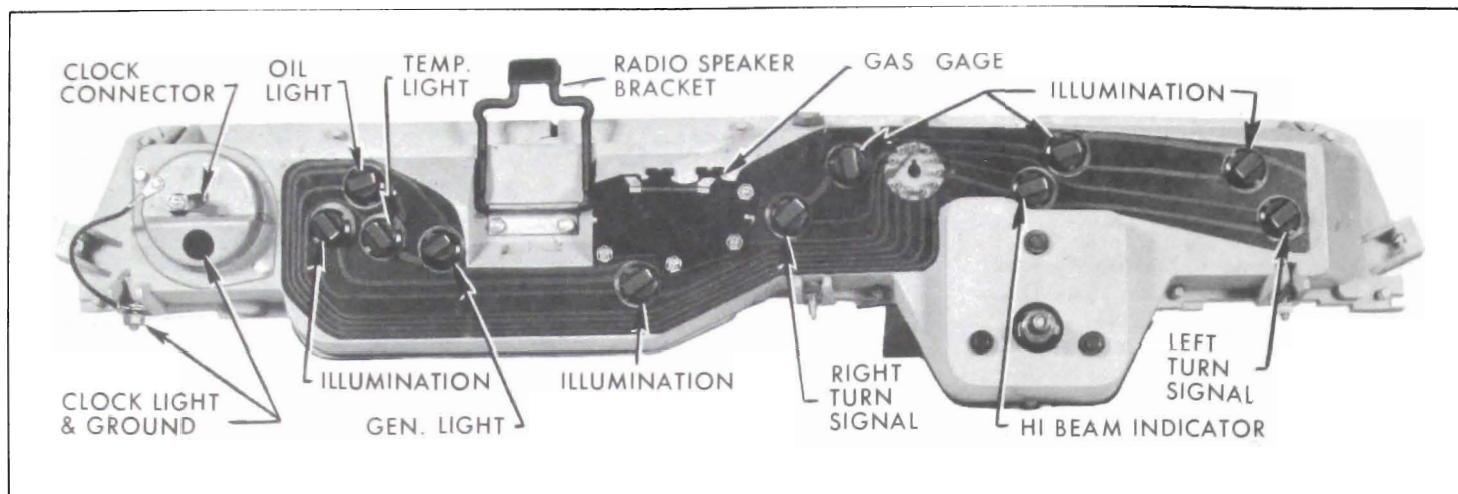
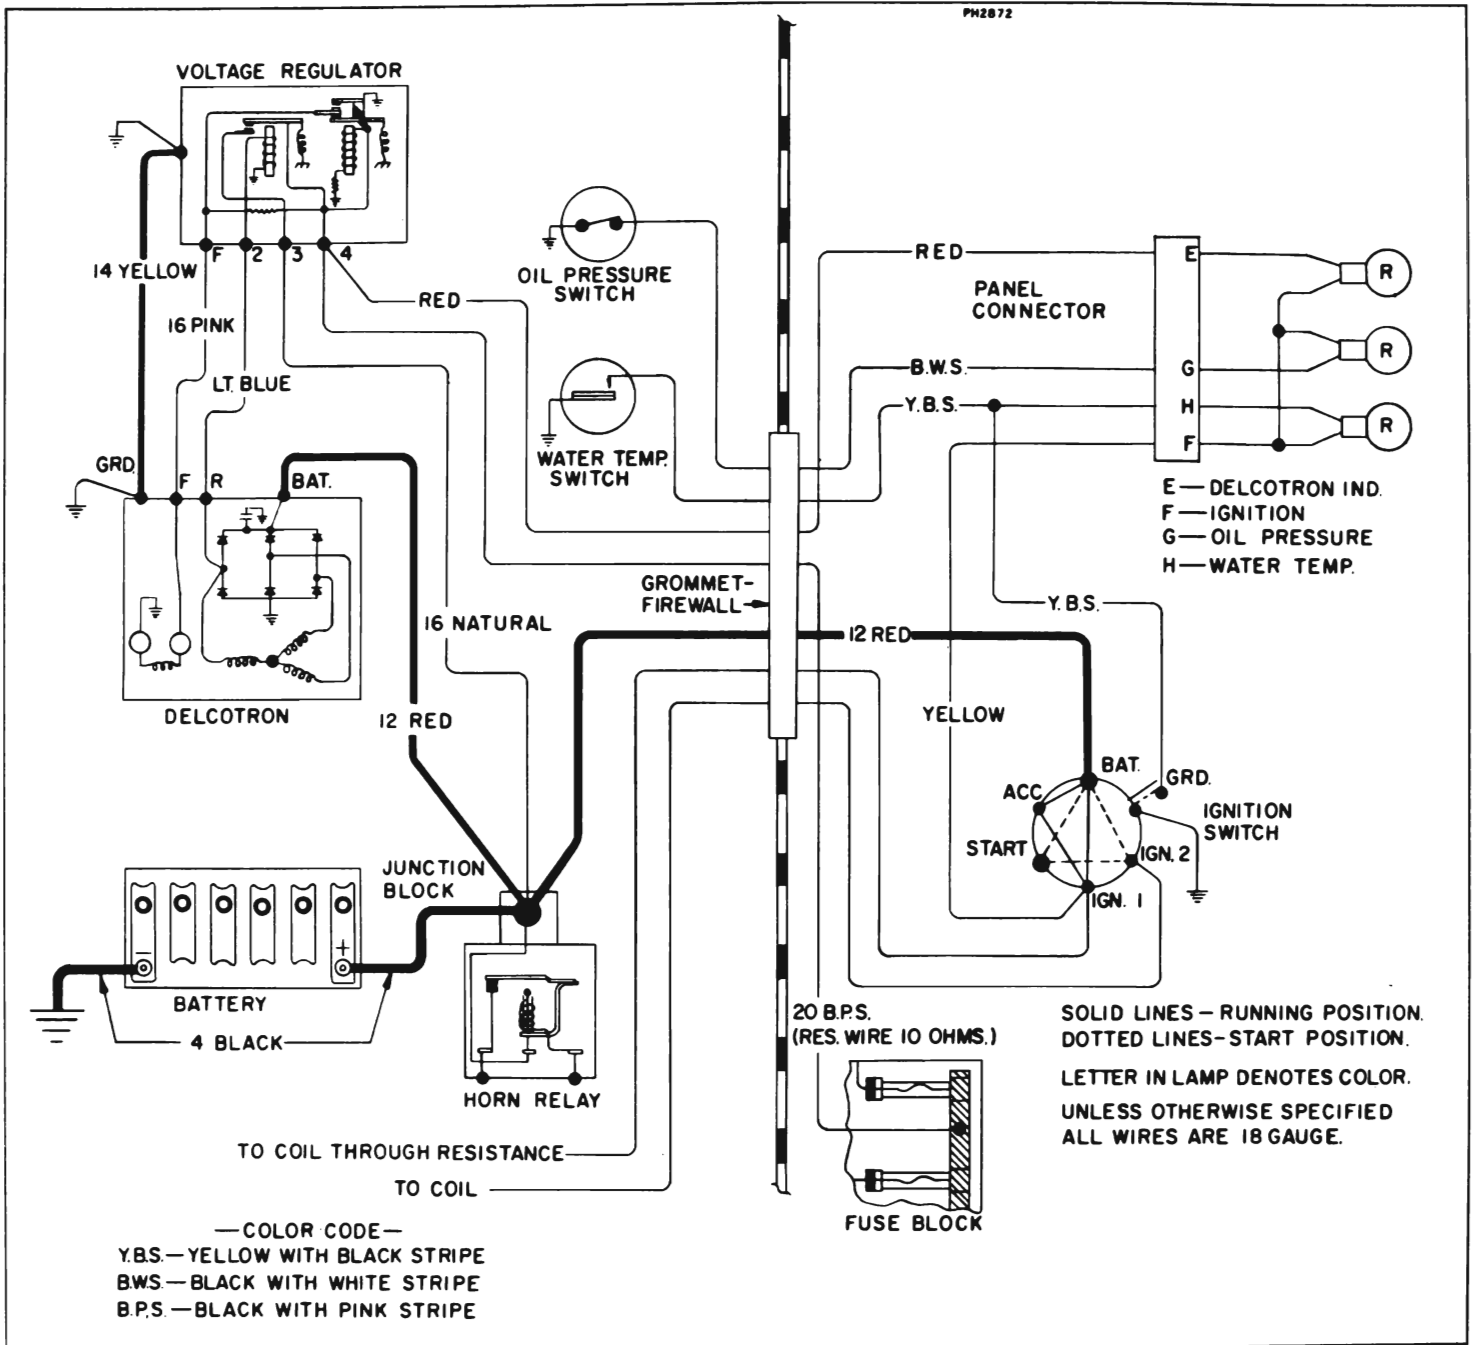

Figure 10-75—Instrument Cluster - Back Side
Figure 10-79—Indicator Light Circuits
A printed circuit which is part of the speedometer housing is used to complete the circuit for the fuel gauge and the lights in the cluster assembly. See Figure 10-75.
To trace the generator indicator light circuit, see Figure 10-79. With the ignition switch turned on (engine not running), current flow is through the ignition switch, out the "IGN-1" terminal, through the generator light in the instrument cluster, to the "4" terminal of the regulator, through the lower contacts of the voltage regulator (held closed by the spring), out the "F" terminal, in the "F" terminal of the generator, through the brush and slip ring, through the field, through another brush and slip ring to ground.
After the engine is started, the voltage put-out by the generator immediately closes the field relay. This causes battery voltage from the "3" terminal to be present at the "4" terminal. See Figure 10-79. Since battery voltage is present on both sides of the generator light, the light goes out. If the generator light comes on with the engine running, the charging circuit should be tested at the first opportunity to determine the cause of the trouble. See paragraph 10-21.
If the engine oil pressure drops below a safe level during operation, the circuit is completed through the pressure switch to ground, and the "Oil" indicator light in the cluster will be turned on. See Figure 10-79.
248°F., the “Temp” indicator will be turned on by the temperature switch. As a test circuit to check whether the “Temp” indicator bulb is functioning properly, a wire which is connected to the “GND” terminal of ignition switch is tapped into the temperature switch circuit. See Figure 10-79. When the ignition is in the “Start” position (engine cranking), the “GND” terminal is grounded inside switch and the “Temp” bulb will be lit. When the engine is started and the ignition switch is in the “On” position, the test circuit is opened and
Use Figure 10-79 to trace wiring circuits for indicator lights and Figure 10-75 for location of indicator light bulb sockets. To determine if there is a ground in the indicator light circuit, remove connector from control switch. If light stays on, trouble is in circuit.
2. Remove the four dash units to instrument cluster printed circuit retaining screws. See Figure 10-75.